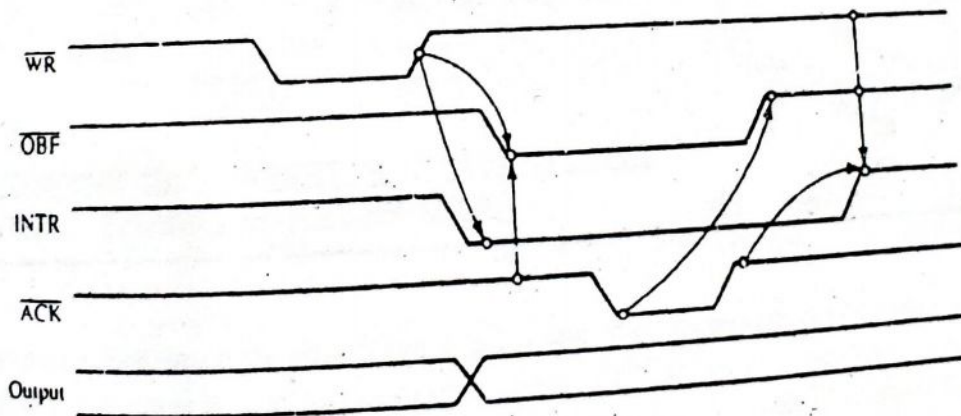

FIGURE 15.12
- ☐ **OBF (Output Buffer Full):** This is an output signal that goes low when the MPU writes data into the output latch of the 8255A. This signal indicates to an output peripheral that new data are ready to be read (Figure 15.12). It goes high again after the 8255A receives an **ACK** from the peripheral.
- ☐ **ACK (Acknowledge):** This is an input signal from a peripheral that must output a low when the peripheral receives the data from the 8255A ports (Figure 15.12).
- ☐ **INTR (Interrupt Request):** This is an output signal, and it is set by the rising edge of the **ACK** signal. This signal can be used to interrupt the MPU to request the next data byte for output. The **INTR** is set when **OBF**, **ACK**, and **INTE** are all one (Figure 15.12) and reset by the falling edge of **WR**.